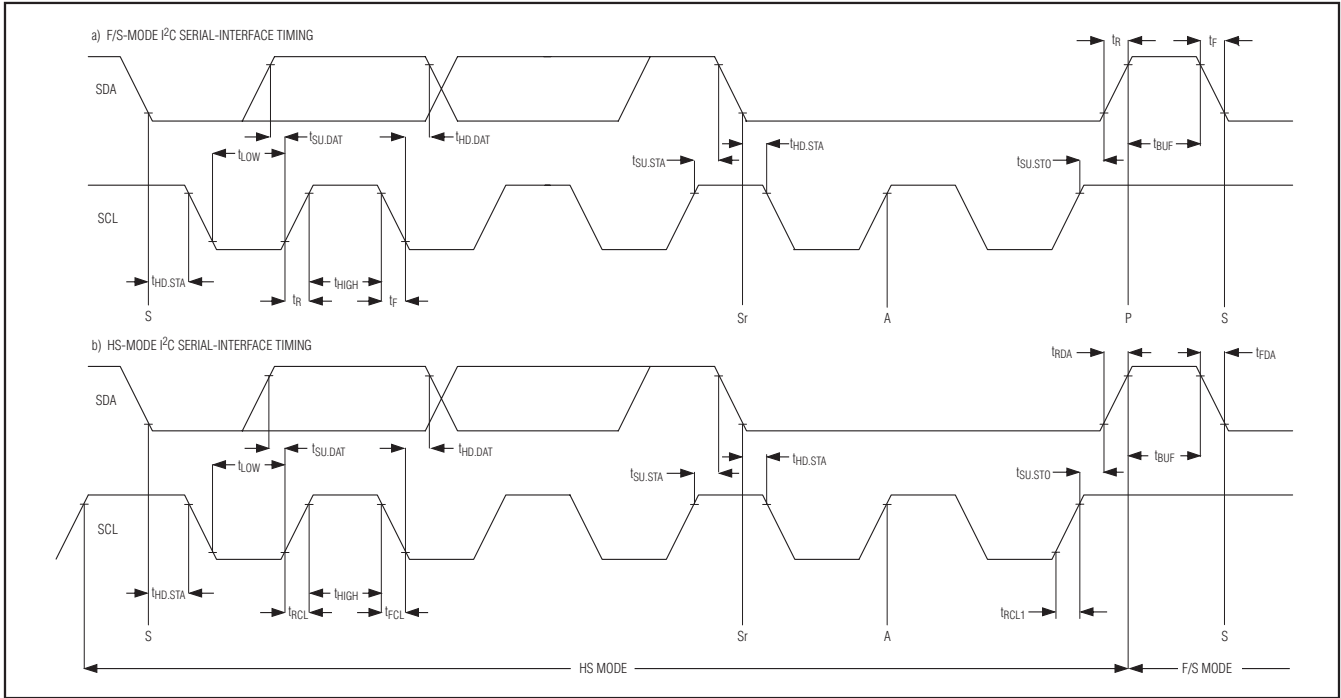

Figure 1. I2C Serial-Interface Timing
**Note 12:** A master device must provide a data hold time for SDA (referred to  $V_{IL}$  of SCL) to bridge the undefined region of SCL's falling edge (Figure 1).
At power-up, the MAX11600-MAX11605 bus timing defaults to fast mode (F/S mode), allowing conversion rates up to 44ksps. The MAX11600-MAX11605 must operate in high-speed mode (HS mode) to achieve conversion rates up to 188ksps. Figure 1 shows the bus timing for the MAX11600-MAX11605 2-wire interface.